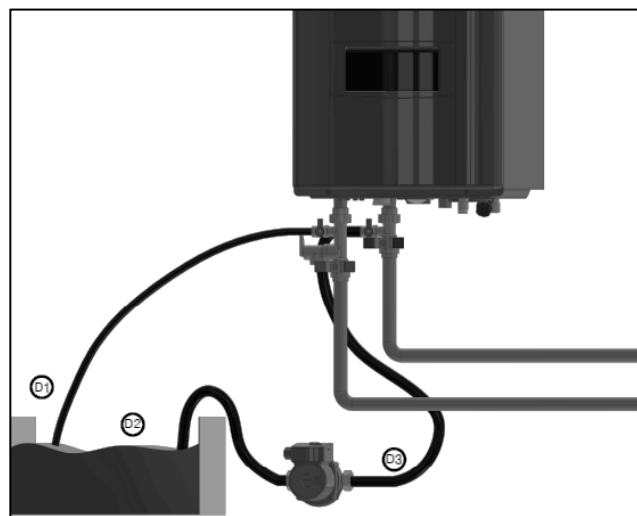

Figure 48 – Hose Connection Detail
- Connect one hose (D1, Figure 48) to the valve (V3) and place the free end in a bucket. Connect one of the hoses (D3) to the circulation pump outlet and the cold water inlet line to valve V4. Connect the other hose (D2) to the circulation pump inlet and place the free end in the bucket.